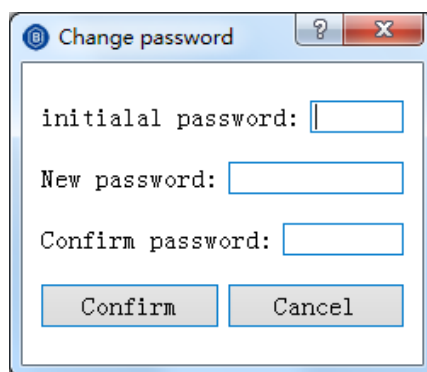

Figure. 8.7.5 Password setting
- Select the **System** tab under **Useful tools** and click **Password Setting** to pop up the Change Password dialog box, as shown in Figure 8.7.5.